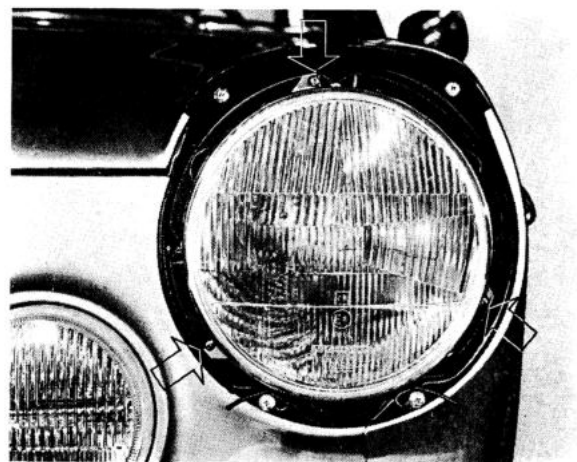

Fig. 3-65. Screws for inner rim
4. Release the screws for the inner rim a couple of turns, see Fig. 3-65, turn the rim and lift it off together with the headlight insert.